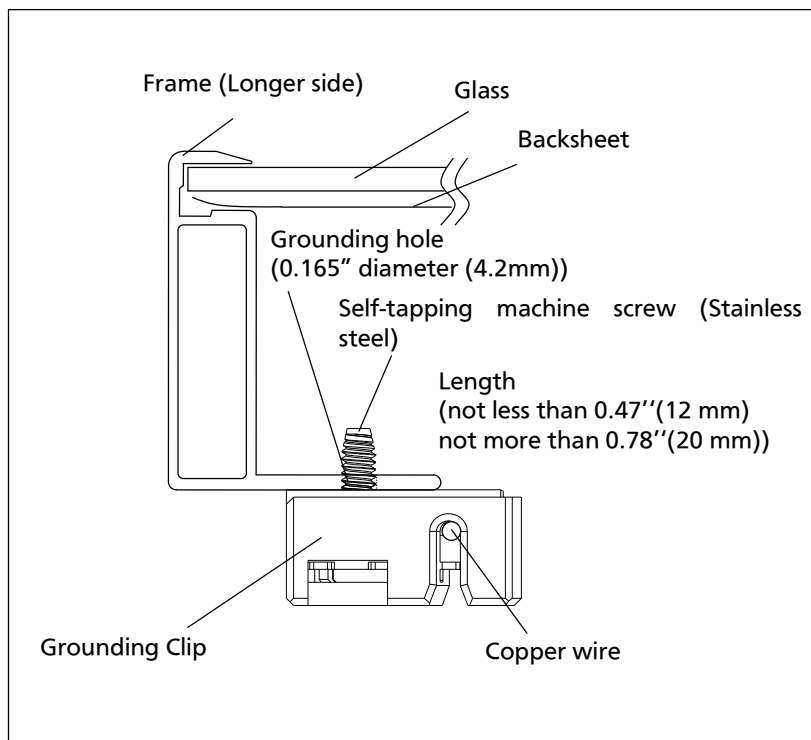

Figure 3.6
- As shown in figure 3.6, place the grounding clip onto the module frame.